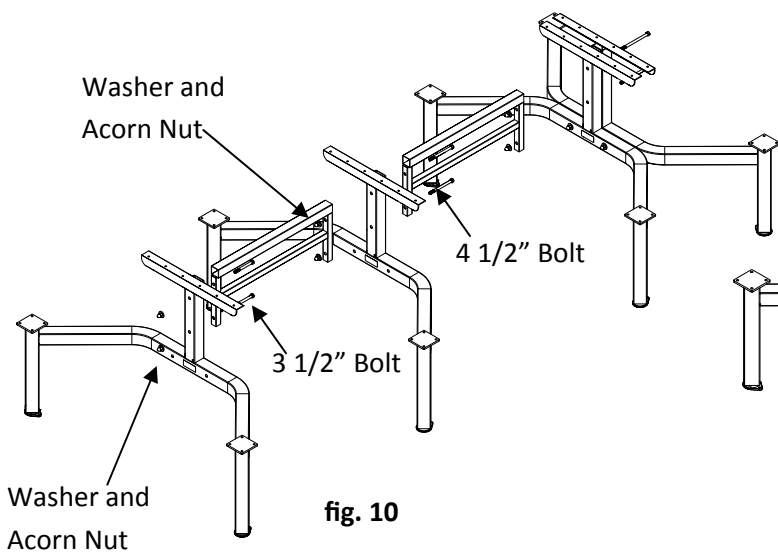

fig. 10
- Grab 1 more 2 Leg Support and Coupling. Align holes in coupling with holes in vertical supports of your 2 leg frame. Using 3/8"-16 x 4.5 hex head cap screw, 3/8" washers, and acorn nut, assemble the coupling and leg together. **(fig. 10)**
- Grab last 2 Leg Support. Align holes in coupling with holes in vertical supports of your 2 leg frame. Using 3/8"-16 x 3.5 hex head cap screw, 3/8" washers, and acorn nut, assemble the coupling and leg together. **(fig. 10)**